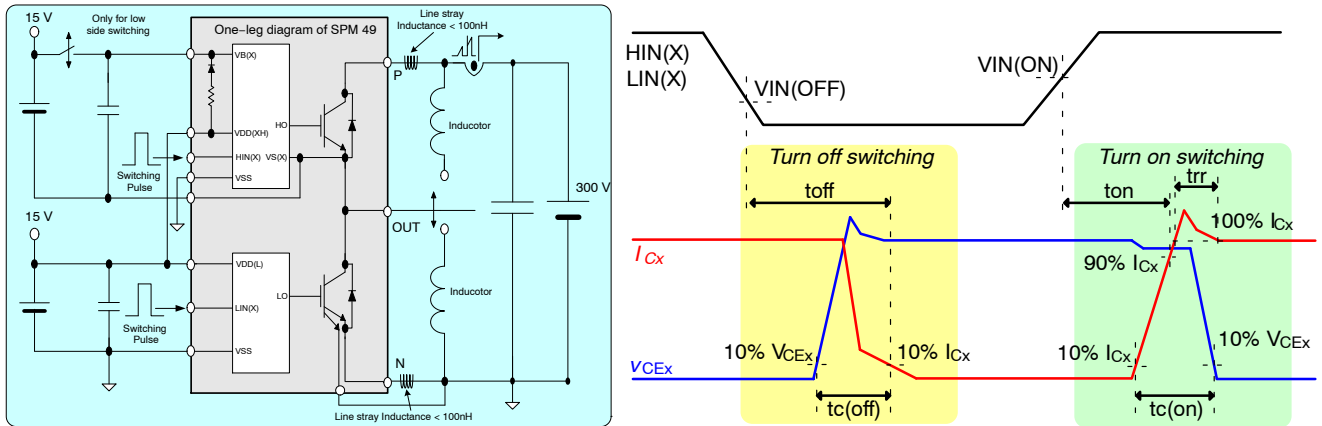

Figure 11. Switching Evaluation Circuit and Switching Time Definition
- ton and toff include the propagation delay time of the internal drive IC. tc(on) and tc(off) are the switching time of IGBT itself under the given gate driving condition internally. For the detail information, please refer to Figure 11.